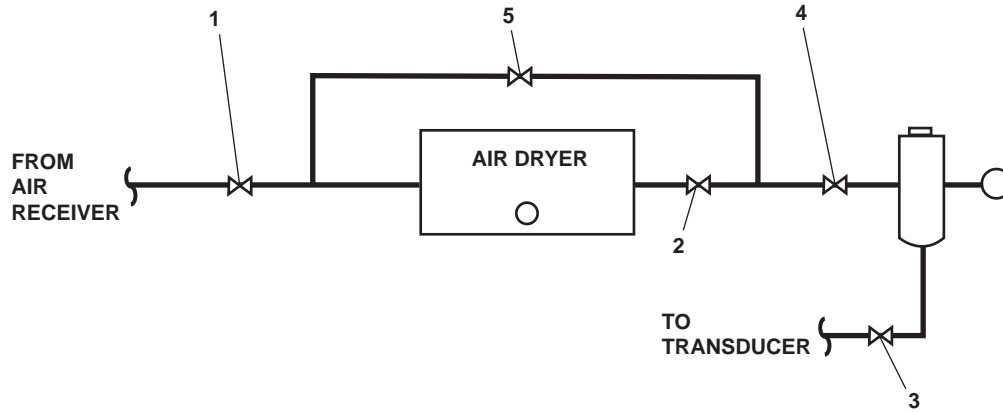

Figure 7. Control Air Dryer Valve Locations
- (1) OPEN the air dryer inlet valve (figure 7, item 1).
- (2) OPEN the air dryer outlet valve (figure 7, item 2).
- (3) OPEN the transducer valve (figure 7, item 3).
- (4) OPEN the filter valve (figure 7, item 4).
- (5) CLOSE the bypass valve (figure 7, item 5).